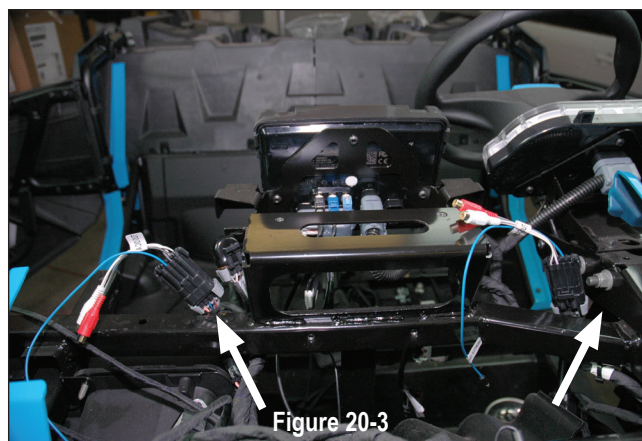

Figure 20-3
Connect the Ride Command adapters to AMP1 and AMP3 plugs as shown in figure 20-3. Both adapters are identical, so it's only important you note which are plugged into AMP1 and AMP3 audio outputs.
- If you have NO Dynamix ECU or OEM installed amplifier, use the (2) T40 screws provided in the MB Quart RZR Stage 5 kit as shown in Figure 20-2. In the next step these screws will attach the dual amplifier plate in the two identified holes as shown in Figure 20-3.